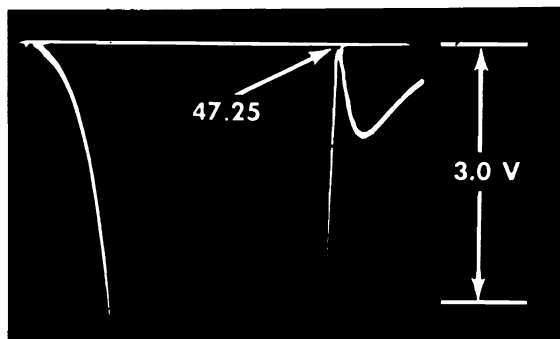

Fig. 11 Expanded View of the 47.25 Mc Trap,
5. Connect the sweep generator to terminal "A" (converter grid. Refer to appropriate tuner tube and trimmer layout). Connect terminal "F" to chassis and connect a jumper between terminal "E" and the junction of the 68 and 1800 ohm resistors (1500 in 14L20 chassis) in the cathode of the first IF. This provides a "Blow Up" of the 47.25 Mc trap (Fig. 11). Adjust the 47.25 Mc trap for minimum marker amplitude.